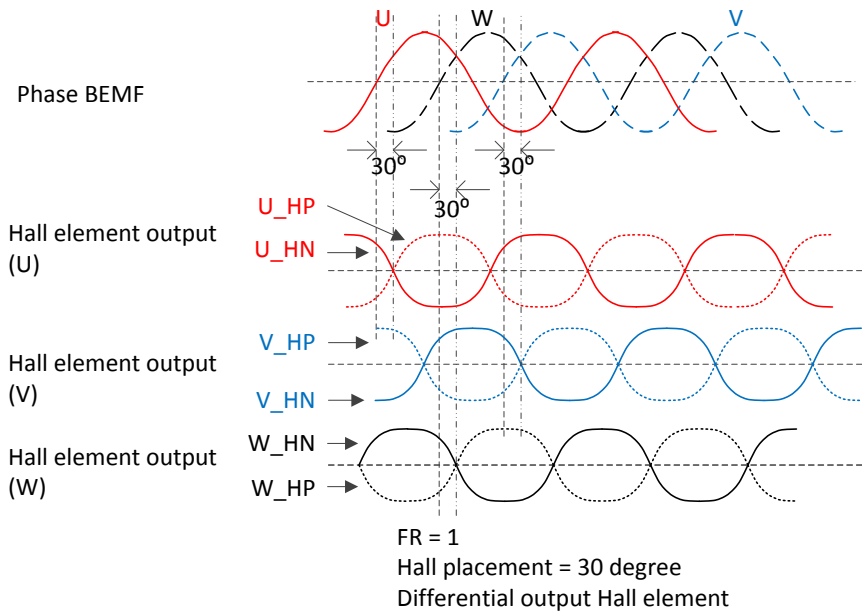

Figure 26. Correspondence Between Motor BEMF and Hall Signal (FR = 1, 30° Placement)
3. Phase U is leading phase W by 120°, phase W is leading phase V by 120°. The Hall signal positive output is 30° lagging of respective phase BEMF. Choose FR = 1 and 30° placement option (see Figure 26).
6. Turn the rotor manually in clock-wise direction. If the waveform on probe-1 (U-phase) is leading probe-2 (terminal-B) by 120°, name the terminal-B as phase W and terminal-C as phase V. Else if waveform on the probe-2 is leading probe 1 (U) by 120°, terminal-B as V, terminal-C as W. At this stage all three phases of the motor are identified.
9. After phase UVW and Hall UVW positive negative are identified, manually rotate the motor again, check if the result matches Figure 24 and Figure 25 (0° placement) or Figure 26 and Figure 25 (30° placement).